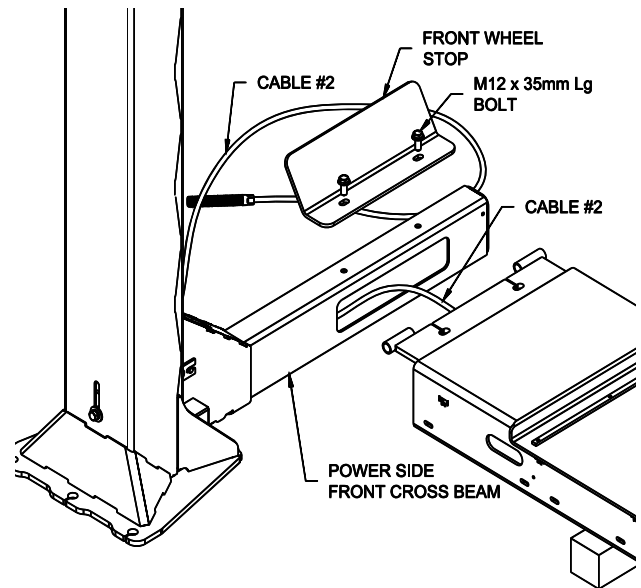

Fig 11 – Front Cross Beam Installation
- 25) Ensure that the power side front cross beam is touching the power column base plate, reinstall the column shroud, and stand the column up. Move the column into position and remove the cross beam sheave. Reach in through the access hole in the cross beam tube and pull out the 6 ft. roll of 1/8" dia. plastic air line connected to the air cylinder at the end of the cross beam. Feed cable #2 into the cross beam access hole and back out the top, Fig 11.